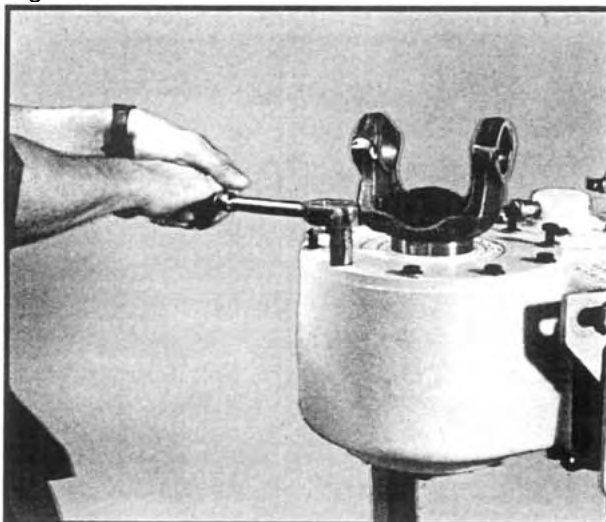

Fig 5
2. Remove the (10) cap screws and washers securing the front carrier to the transfer case housing. See Figure 5.